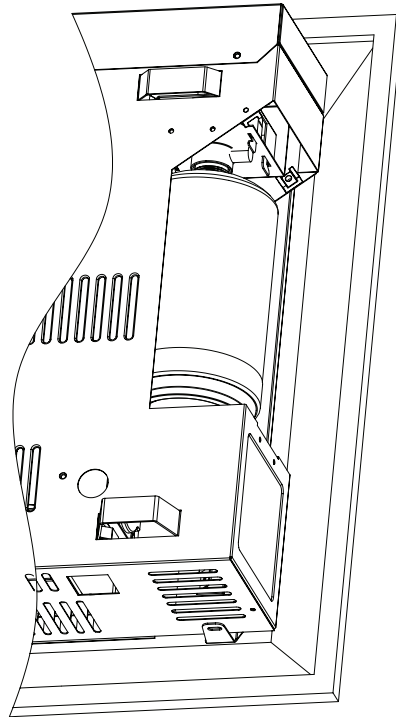

Figure 4 Connecting propane cylinder
**Attach to 1lb. cylinder regulator inlet.** (see Figure 4)